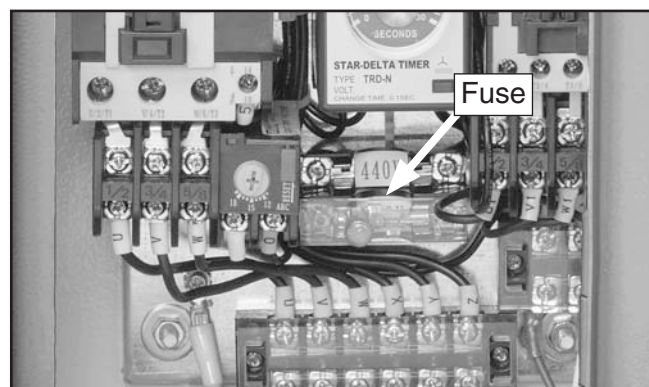

Figure 8. Fuse installed at the 220V location.
3. Pull the fuse that is in the “220” slot and push it into the “440” slot (see **Figure 8**).